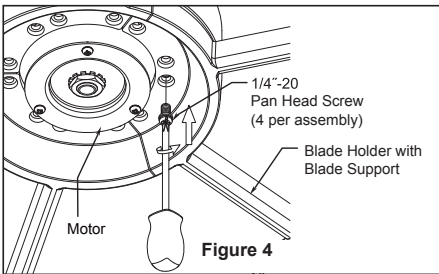

Figure 4
4. Secure the blade holder with blade support to the motor using the 1/4"-20 screws. The post on the blade holder needs to align with the hole between the 1/4"-20 threaded holes located on the bottom of the motor. (Figure 4)